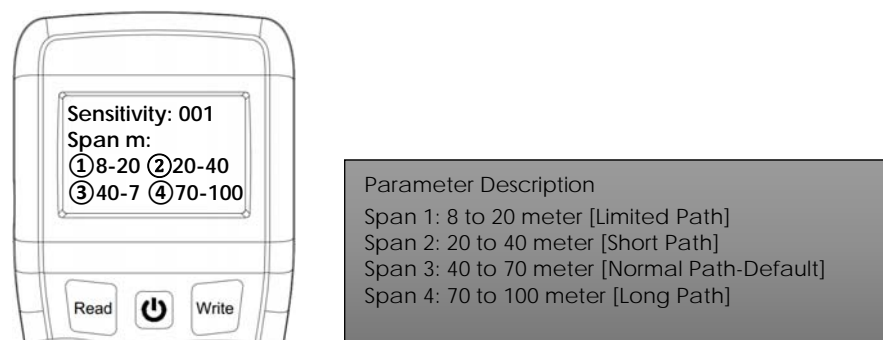

Figure 12
2. Switch on the programmer, then press button "3" then display "Sensitivity and Span (m)". Then enter then press "0/Page" key to highlight the previous Span setting. Then press value from 1, 2, 3 or 4 correspond to the span value and then press "Write" key. (Figure 12)